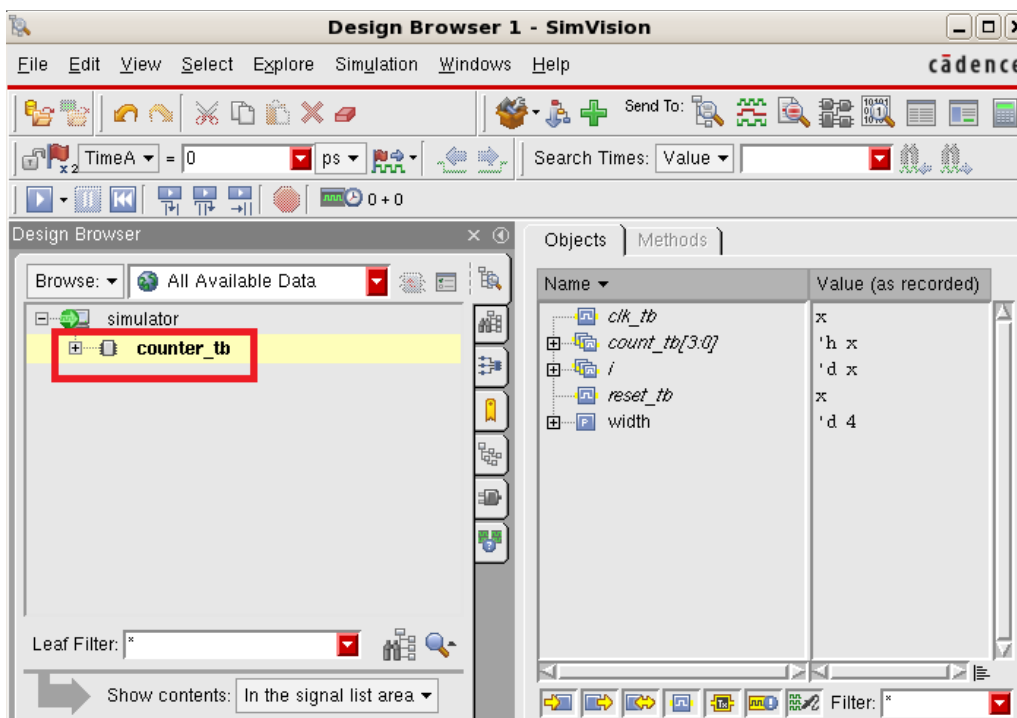

Figure 7 SimVision/Design Browser Window
8. Select **counter_tb** (as shown in Figure 7). **Right-click**→**Send To New**→**Waveform Window**. The related signals of counter_tb will be probed for display.